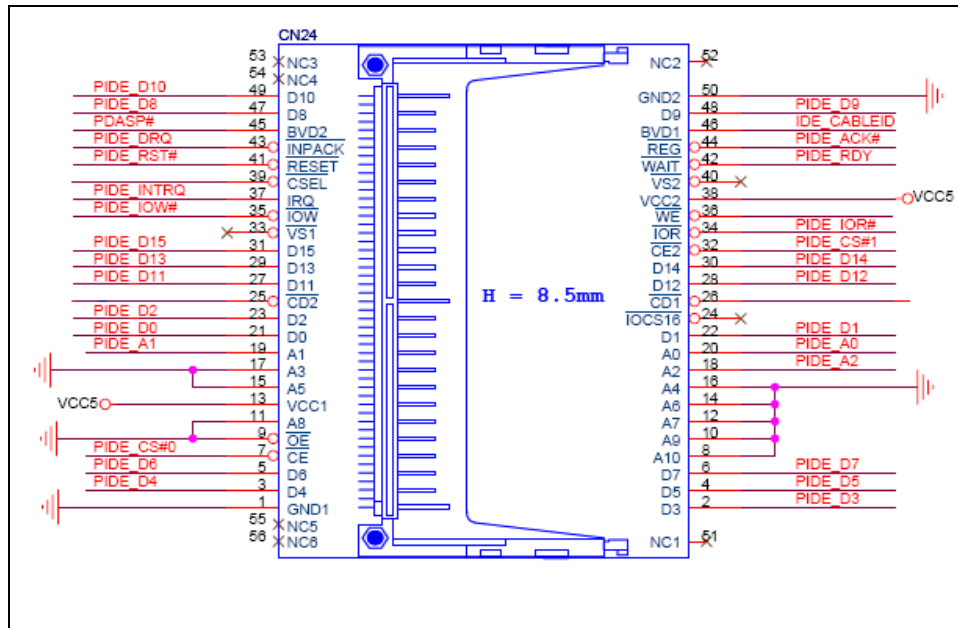

Figure 3-5: Compact Flash Connector Location (Solder Side)
- CN Location:** See Figure 3-5